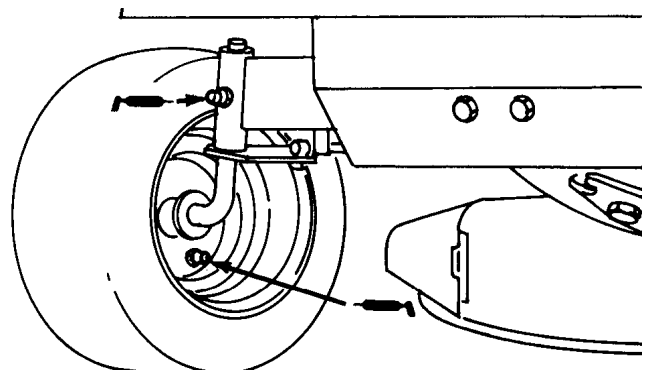

Figure 20
1. Lubricate the front wheels and spindles until grease begins to ooze out of the bearings (Fig. 20).